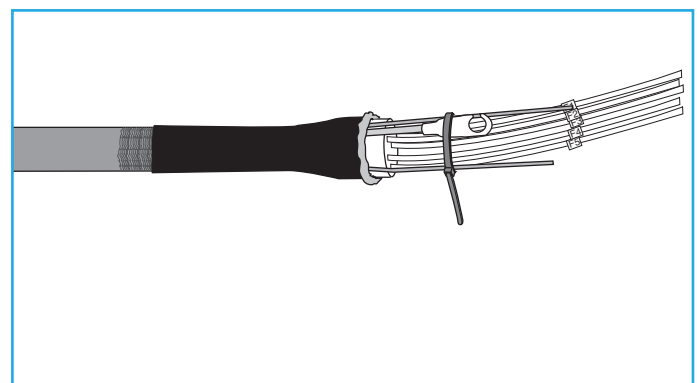

Figure 9.
7.3.15 With the CV1981 on setting 6, begin shrinking the tube around the top of the funnel. After recovering 1" of tube on funnel, pause for 15 seconds to allow the adhesive to set on the funnel. Complete shrinking the tube. (Fig. 9)